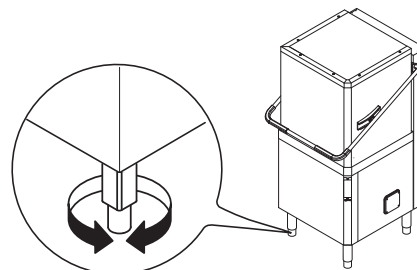

Figure 8 Feet adjustment
- Adjust the equipment by turning the special adjustable feet and making sure it is perfectly level, both lengthwise and crosswise (Figure 8).